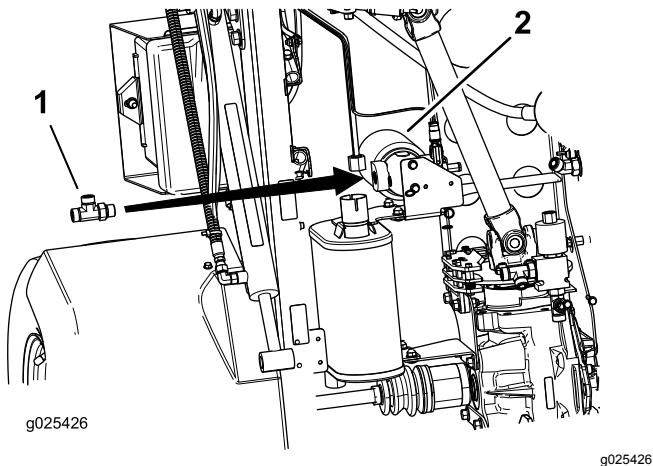

Figure 15
2. Install the tee fitting with O-rings (Figure 15).